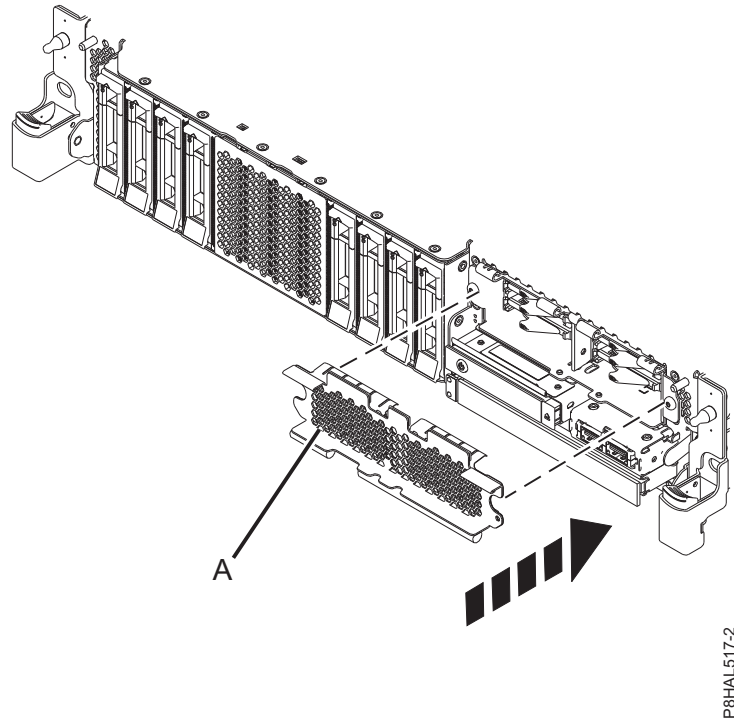

Figure 69. Covering the SSD cage in an expanded function system
3. If applicable, cover the SSD cage with the perforated plate (**A**) as shown in Figure 69 on page 71.